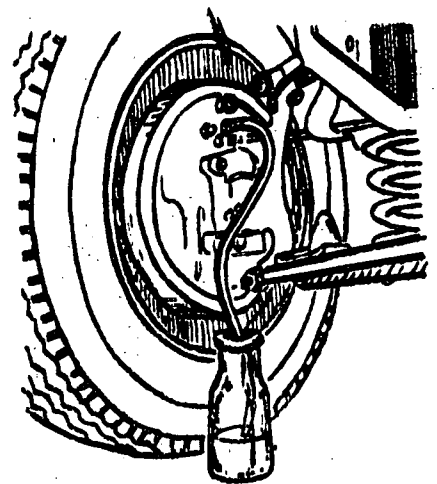

Fig. 1
- a) Connect a hose between the bleeder and the receptacle for receiving the fluid (fig. 1), on the wheel that is farthest away from the master cylinder.